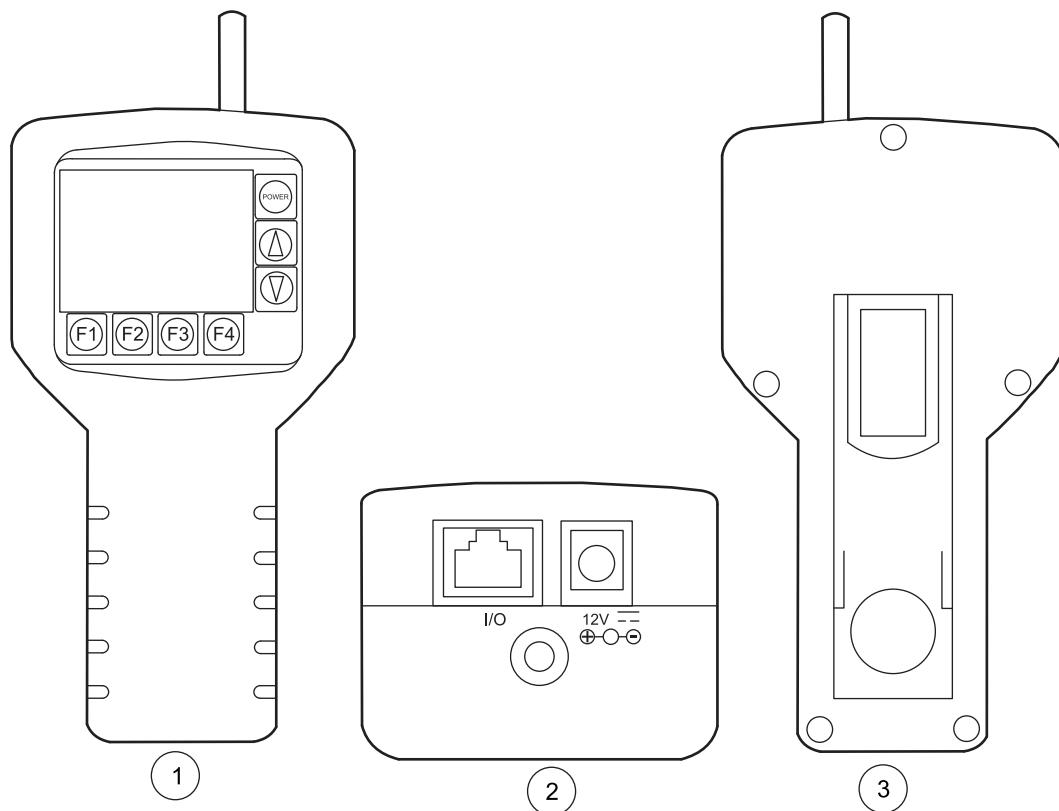

Figure 2 MET ONE HHPC-6
The MET ONE Handheld Airborne Particle Counter-6 (MET ONE HHPC-6) (refer to Figure 2 on page 9) is a portable instrument that measures, counts, stores and reports airborne particulates. The standard MET ONE HHPC-6 can hold 500 samples in the memory. The data records include the date, time, counts, sample labels, volume, alarm flags, temperature and relative humidity. Use the interface cable and software provided with the MET ONE HHPC-6 to download the data records to a personal computer (PC). The internal battery can power the MET ONE HHPC-6 when the MET ONE HHPC-6 is mobile. The MET ONE HHPC-6 can also be connected to an AC power adapter provided, for extended or stationary sampling.